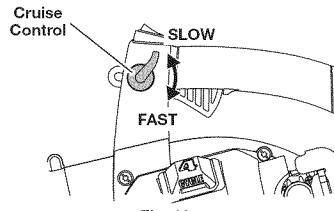

Fig. 12
1. Move the variable speed cruise control toward the **FAST** position to incrementally increase or maintain the unit's engine speed (Fig. 12). When the variable speed cruise control is pressed, the trigger will recede into the handle.
2. To decrease engine speed, move the variable speed cruise control to the **SLOW** position and the trigger will return to idle (Fig. 12).